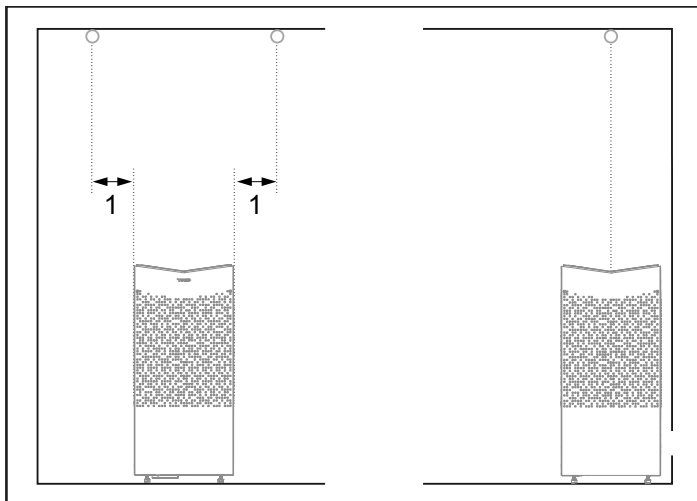

Figure 4: Sensor installation on ceiling
- Plan the sensor positioning (see Figure 3 and Figure 4).
If the wall on which the sensor is to be installed is made of highly heat-absorbing material (e.g. concrete, brick, etc.), or of hardened glass, the sensor may be installed in the ceiling at a distance from the heater, according to Figure 4.